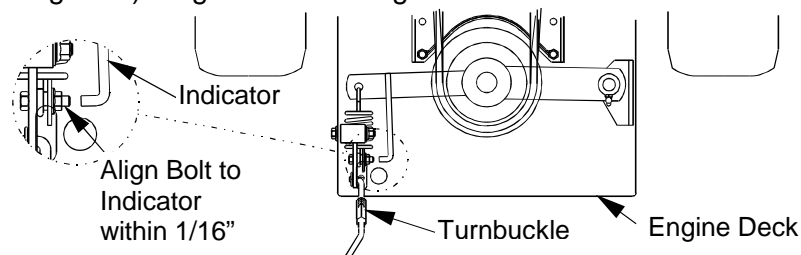

FIGURE 7
- b) With PTO engaged, adjust the linkage length by loosening the locknut on the turnbuckle and adjusting the turnbuckle so that the bolt on the bellcrank and the indicator arm align with each other within 1/16" (.16 cm) (See Figure 7). Tighten locknut against turnbuckle.